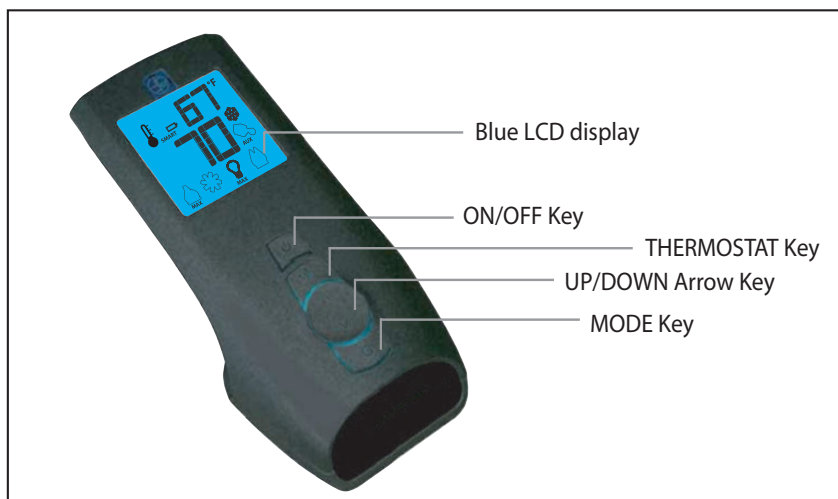
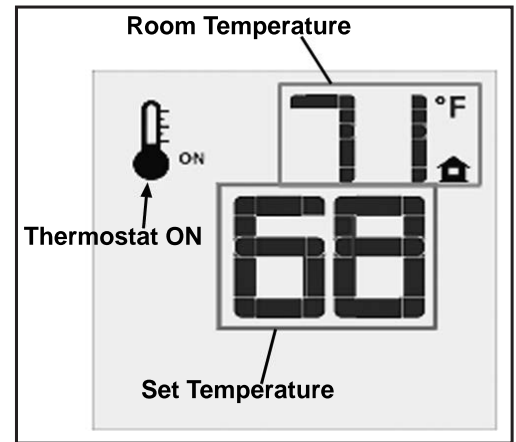
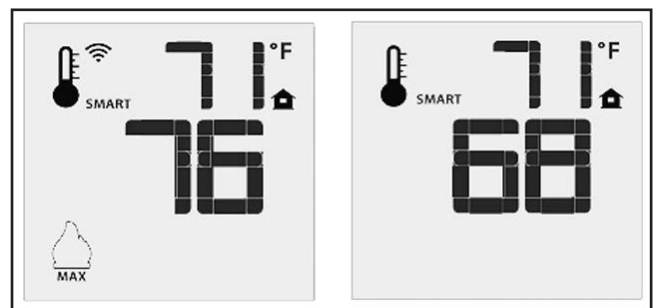

Figure 4: Proflame 2 Transmitter.
Figure 9: Remote Control Displays Set Temperature.
Figure 10: Remote Control's Smart Flame Function.
The Proflame 2 Transmitter is a black remote control with a blue backlit LCD display. It uses a streamline design with a simple button layout and informative LCD readout (Figure 5). The Transmitter is powered by three (3) AAA type batteries. A Mode Key is provided to Index between the features and a Thermostat Key is used to turn on/off or index through Thermostat functions (Figure 4 & Figure 5)
Press the ON/OFF Key on the Transmitter. The Transmitter LCD display will only show the room temperature and Icon (see Figure 9). A single “beep” from the IFC confirms reception of the command and both the pilot light (if the unit is not set to continuous pilot) and main burner will turn off.
The Remote Control can operate as a room thermostat. The thermostat can be set to a desired temperature to control the comfort level in a room. To activate this function, press the Thermostat Key (see Figure 4). The LCD display on the Transmitter will change to show that the room thermostat is “ON” and the set temperature is now displayed (see Figure 9). To adjust the set temperature, press the Up or Down Arrow Keys until the desired set temperature is displayed on the LCD screen of the Transmitter.
The Smart Thermostat function adjusts the flame height in accordance to the difference between the set point temperature and the actual room temperatures. As the room temperature gets closer to the set point the Smart Function will modulate the flame down. To activate this function, press the Thermostat Key (Figure 4) until the word “SMART” appears to the right of the temperature bulb graphic (Figure 10). To adjust the set temperature, press the Up or Down Arrow Keys until the desired set temperature is displayed on the LCD screen of the Transmitter.